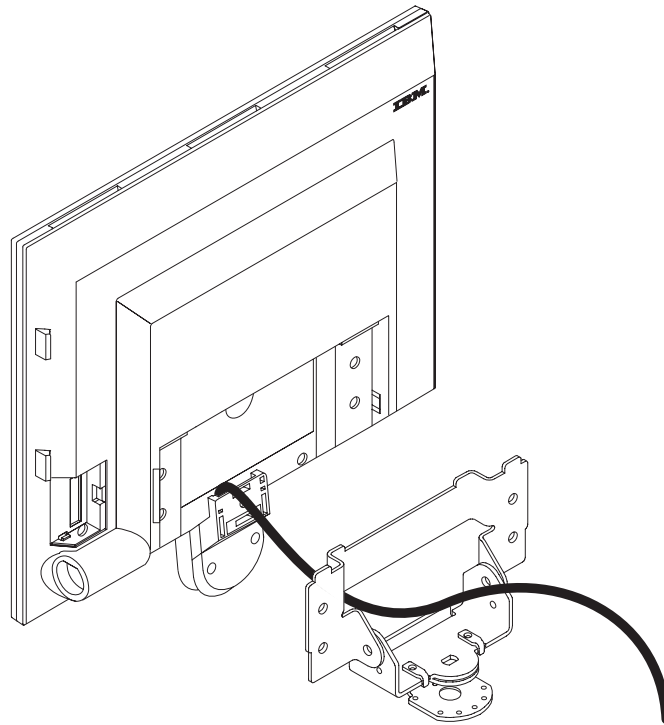

Figure 2-38. Path of pointing device cable
1. See Figure 2-38 and route the pointing device cable through the middle opening of the mounting bracket and into the trough, down through the pedestal.